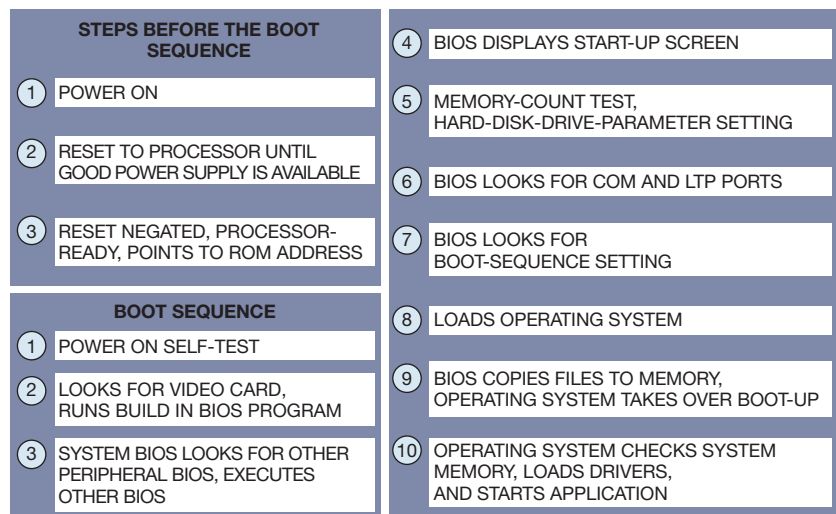

Figure 1 Microsoft’s Windows XP moves through a suite of steps as it boots a system.
**Figure 1** illustrates the first few terms of the harmonic series. The first waveform is a simple sine wave at the fundamental frequency. The next waveform shows the fundamental plus its third harmonic, the next takes harmonics to the fifth, and so on. The more terms you add, the more “suarish” the waveform becomes, but it still looks wiggly.
the amplitudes that the harmonic-sum model uses. The Fourier theory applies only to an infinite sum, which never occurs in practice. If you have a finite sum, with only a finite number of sine-wave components, why not try other amplitudes different from the ideal infinite-sum values? Instead of chopping off the infinite sum after the seventh harmonic, with subsequent amplitudes dropping abruptly to zero, the right side of **Figure 1** smoothly tapers the harmonic amplitudes so that, by the time you get to the last one, its amplitude is small. That fact mitigates the discon-
**Figure 1** Additional harmonics sharpen rising and falling edges but do not improve the worst-case ripples. In contrast, feathering the harmonic amplitudes improves the ripple amplitude, but at the expense of some loss in edge sharpness.
A simple x86 boot sequence is fairly self-explanatory (**Figure 1**). Windows XP follows comparable steps, albeit